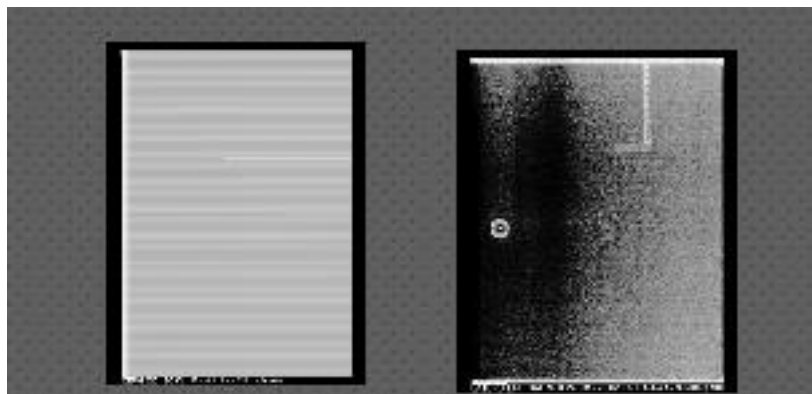

Figure 44
21. If distance is outside the tolerance range or the x-ray field is not correctly irradiated (*Figure 44*), enter the service menu (see paragraph 11.2.11) to correct the problem (see paragraph 11.2.12).